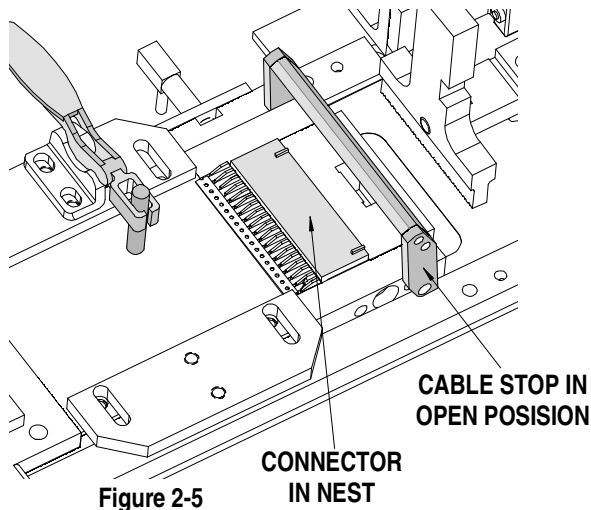

Figure 2-5
1. Load a connector (70430 or 70431) into the respective nest, making sure the terminals are in the terminal guides. See Figure.2-5.